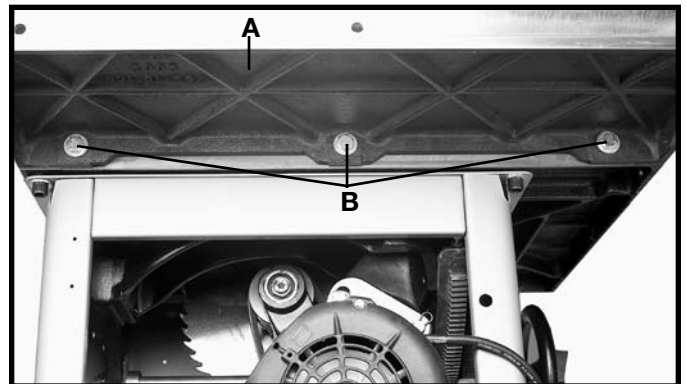
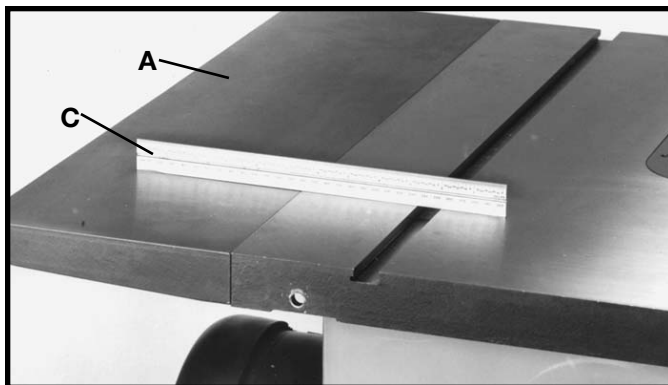
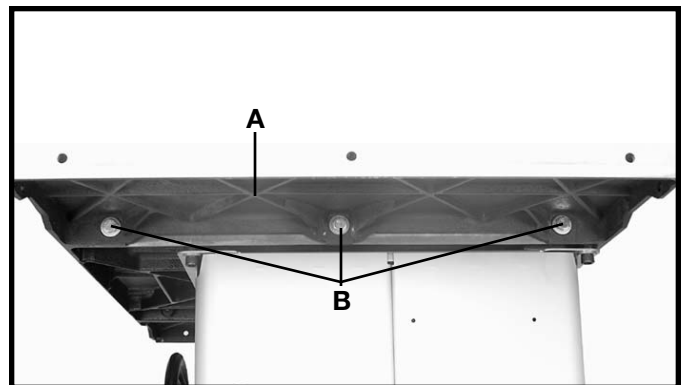

Fig. 8
Fig. 9
Fig. 10
Assemble the extension wings (A) Fig. 8 and Fig. 10, to the saw table using the six 7/16"-20x1 1/4" hex head screws (B) and 7/16" lockwashers supplied. Use a straight edge (C) Fig. 9, to make sure the extension wings (A) are level with the saw table before tightening the screws (B) Fig. 8 and Fig. 10. **NOTE: MAKE SURE FRONT EDGE OF WING IS FLUSH TO OR SLIGHTLY BEHIND THE FRONT EDGE OF THE TABLE.**